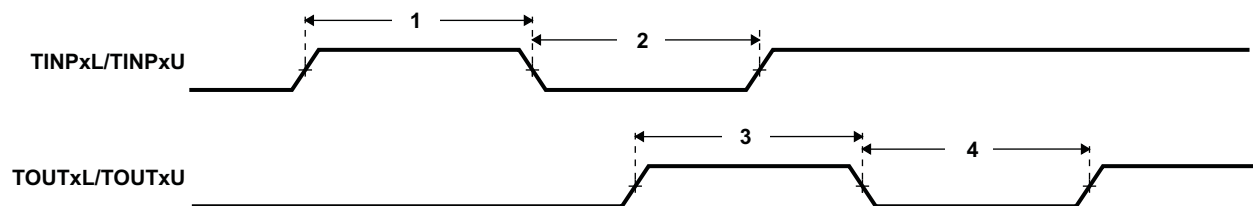

**Figure 7-94. Timer Timing**
**Table 7-143. Timing Requirements for Timer Input(1) (see Figure 7-94)**
(1) P = DEV\_MXI/DEV\_CLKIN cycle time in ns. For example, when DEV\_MXI/DEV\_CLKIN frequency is 27 MHz, use P = 37.037 ns.
**Table 7-144. Switching Characteristics Over Recommended Operating Conditions for Timer Output(1) (see Figure 7-94)**